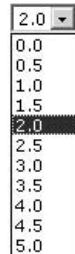

Figure 6-19 — RGB delay drop box
3. Click the RGB delay drop box. A drop-down box appears (figure 6-19).